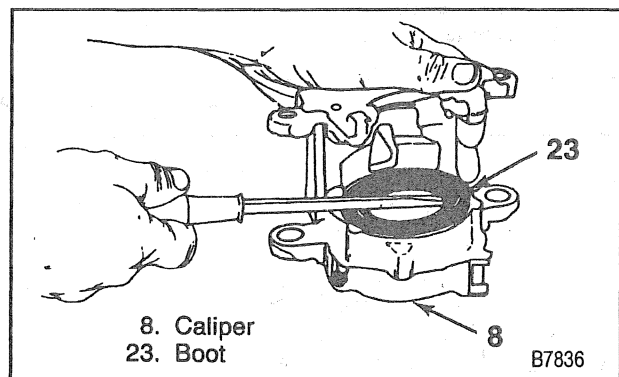

Figure 31—Removing the Boot
4. Boot (23) (figure 31).
5. Piston seal (21).